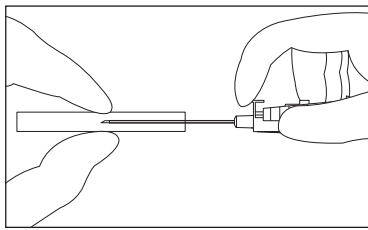

Figure 3
4. Remove the protective needle cover in a straight outward motion (see Figure 3).